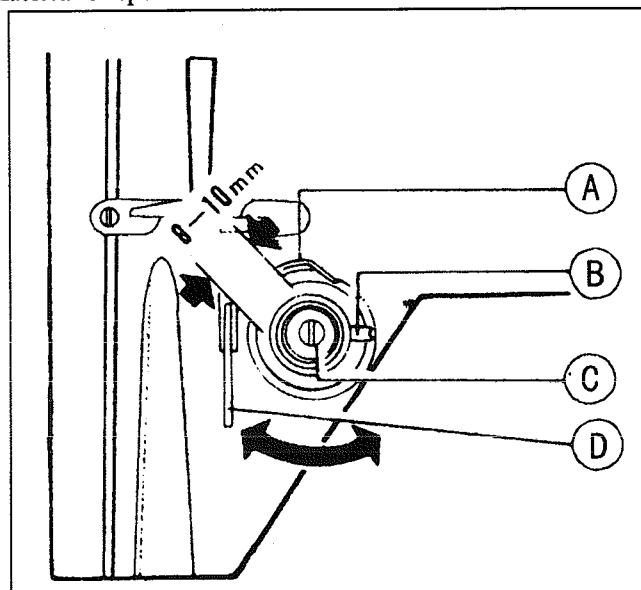
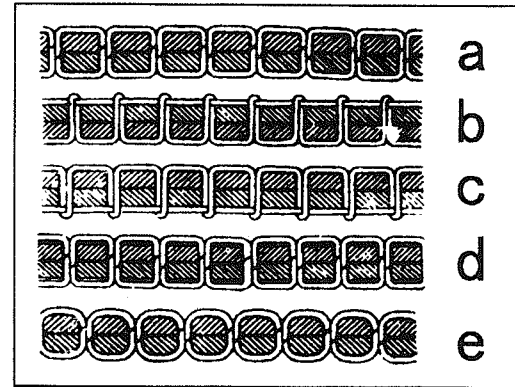

Fig. 15
Fig. 16
15. ADJUST THREAD GUIDE AND THREAD TENSION (Fig.16,17)
Fig.15 shows different stitch forms. Normal stitch form should be as shown in Fig.15 (a). When abnormal stitches cause puckering and thread break-age, the tension of needle thread and bobbin thread must be adjusted accordingly.
- 1) In case needle thread tension is too strong or bobbin thread tension is too weak, as shown in Fig.15 (b), turn the thumb nut counterclockwise to decrease the needle thread tension, or tighten the tension spring regulating screw of bobbin case to increase the bobbin thread tension (See Fig.16)
- 2) In case needle thread tension is too weak or bobbin thread tension is too strong, as shown in Fig.15 (c), turn the thumb nut clockwise to increase the needle thread tension, or loosen the tension spring regulating screw of bobbin case to decrease the bobbin thread tension.
- 3) In case of the stitch forms as shown in Fig.15 (d) and (e), adjustments can be made with reference to the above means.